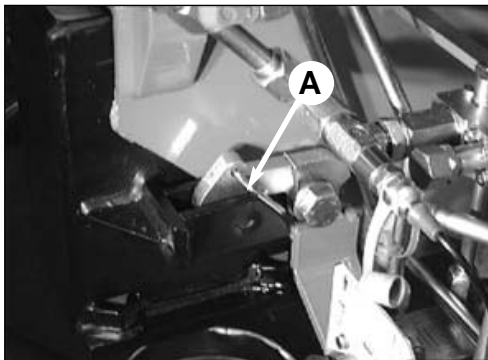

fig. 23
- Disengage the locking devices of the outrigger supports by putting the levers **A** from the position of the fig. 23 to the one of the fig. 23a.
Under no circumstances put the hands on the locking devices of the outrigger supports; the device re-hook (lever **A** from position of fig. 23b to fig. 23) is automatic.
- (!) Always check that the outriggers supports, once in their rest position, are locked in their seat by the safety devices, so as to assure the impossibility of accidental movement. (Fig. 23)